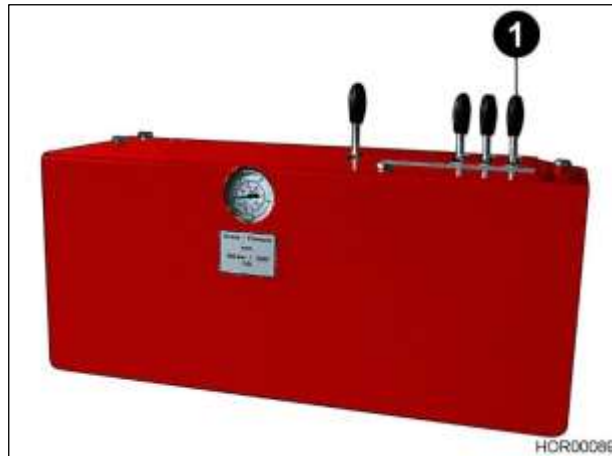

Bild 26 Control panel, lifting and lowering
- Push the lever (Bild 26/1).
- Pull the lever (Bild 26/1).